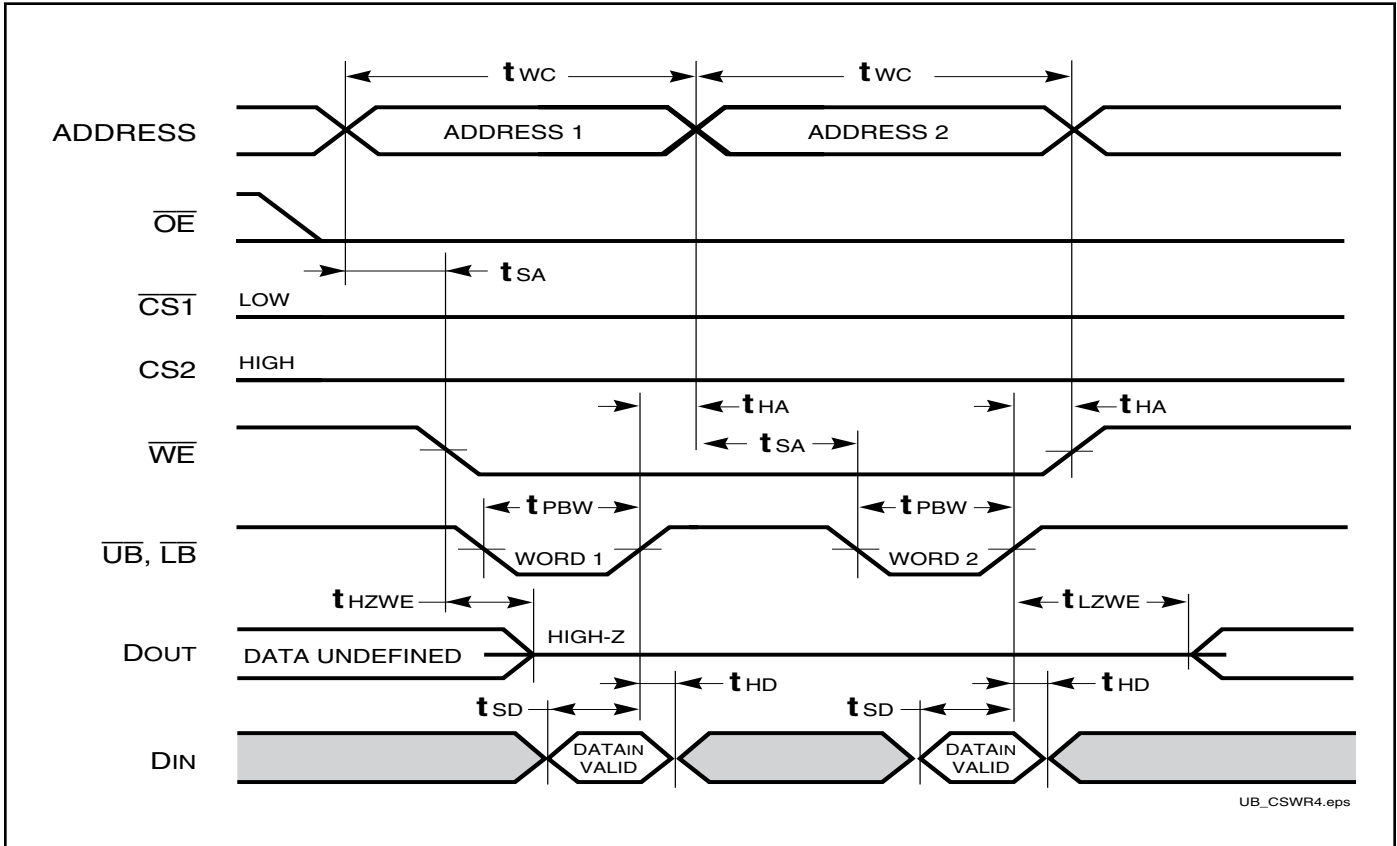
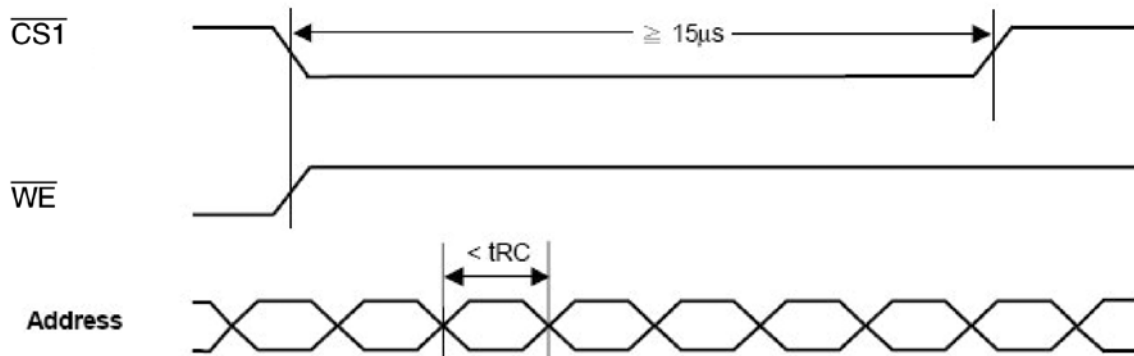

Figure 1: **Avoidable Timing**
Figure 2:
1. Test conditions assume signal transition times of 5 ns or less, timing reference levels of 0.9V/1.5V, input pulse levels of 0.4 to V_{DD}-0.2V/0.4V to V_{DD}-0.3V and output loading specified in Figure 1.
3. Tested with the load in Figure 2. Transition is measured ± 100 mV from steady-state voltage. Not 100% tested.
Please avoid address change for less than t_{RC} during the cycle time longer than $15\mu s$ (Figure 1). Figure 2 & 3 provide work around solution for this issue.